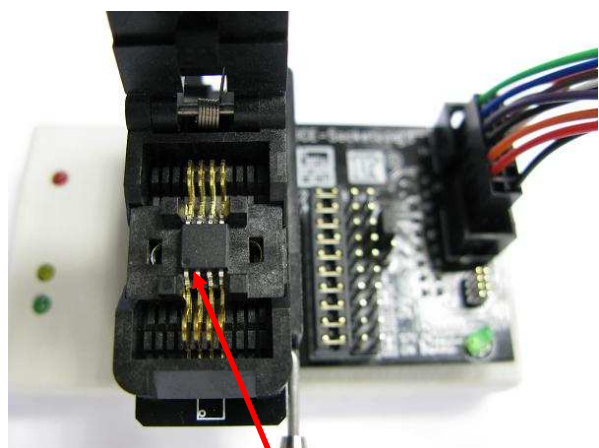

Figure 4.
4. SOP 8 207 mil device: The 1st Pin is at the bottom left of the socket. Refer to Figure 4 below.